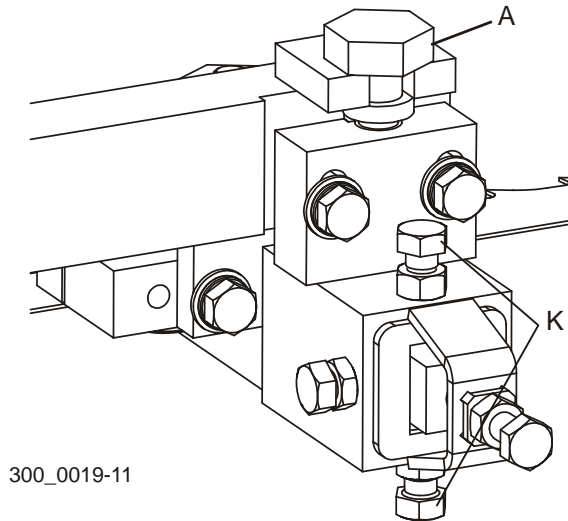

FIG. 7-12
See Figure 7-12. Optional All-Ceramic Guides: Loosen the jam nuts on bolts (K). Adjust the bolts up to tilt the blade down. Adjust the bolts down to tilt the blade up. Retighten the jam nuts and recheck the tilt of the blade guide assembly with the blade guide alignment tool.